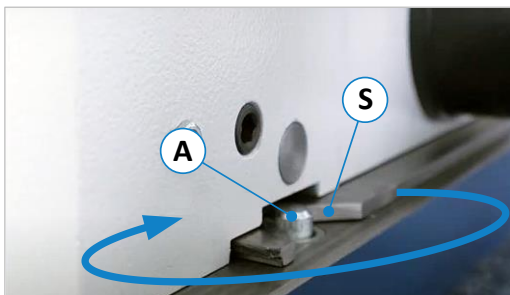

Figure 24: Lock and engage
- To ensure parallelism with the machine table, turn the fence slightly until the centring pins on the underside of the fence (hidden in the view) engage in the holes (B) on the machine table (see ⇒ Figure 24). A slight click can be heard.